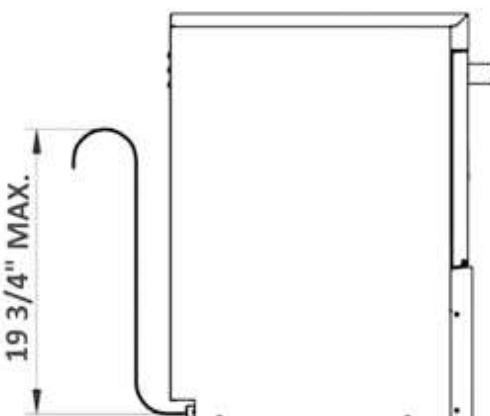

Fig. 3: Installation of Drainage at a Height Using Drainage Pump
- If the drainage pipe is not lower than the outlet, the unit will still drain properly with the incorporated drainage pump as long as the drainage outlet is mounted at a maximum height of 19 3/4" (**Fig. 3**).